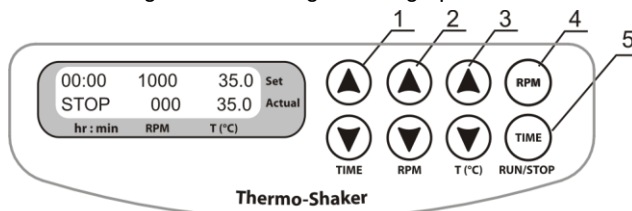

Fig. 3. Control Panel
- 5.3.1. **Setting time (TIME).** Using the ▲ and ▼ **TIME** keys (Fig. 3/1) set the required working time interval in hours and minutes (increment 1 min).
- 5.3.2. **Setting speed (RPM).** Using the ▲ and ▼ **RPM** keys (Fig. 3/2) set the required speed (increment 10 rpm).
- 5.3.3. **Setting temperature (T, °C).** Using the ▲ and ▼ **T, °C** keys (Fig. 3/3) set the necessary temperature (increment 0.1°C).
5.4.2. Press the **RPM RUN/STOP** key (Fig. 3/4). The platform will start rotating and the timer indicator will start counting up the time interval (with 1 min precision).
5.6. If required, there is possibility to restart the timer when it is running. Press the **TIME RUN/STOP** key once (Fig. 3/5) to stop the timer. Press the **TIME RUN/STOP** key again to restart the timer.
Caution! At the end of the set time period the platform movement is stopped automatically, but the heating can be stopped only manually by reducing the temperature using the ▼ **T, °C** key (Fig. 3/3 - lower key) till the OFF sign appears in the upper line (Set) of the display